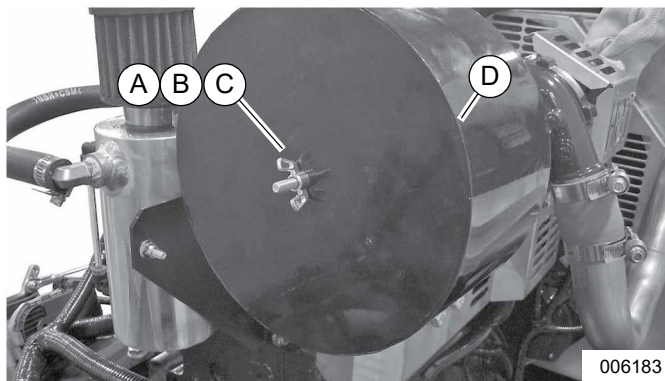

Figure 5-20. Remove Air Cleaner Cover—2.5L Engine
1. See Figure 5-20. Remove wing nut (A), flat washer (B), and lock washer (C) from threaded rod to release air cleaner cover (D).